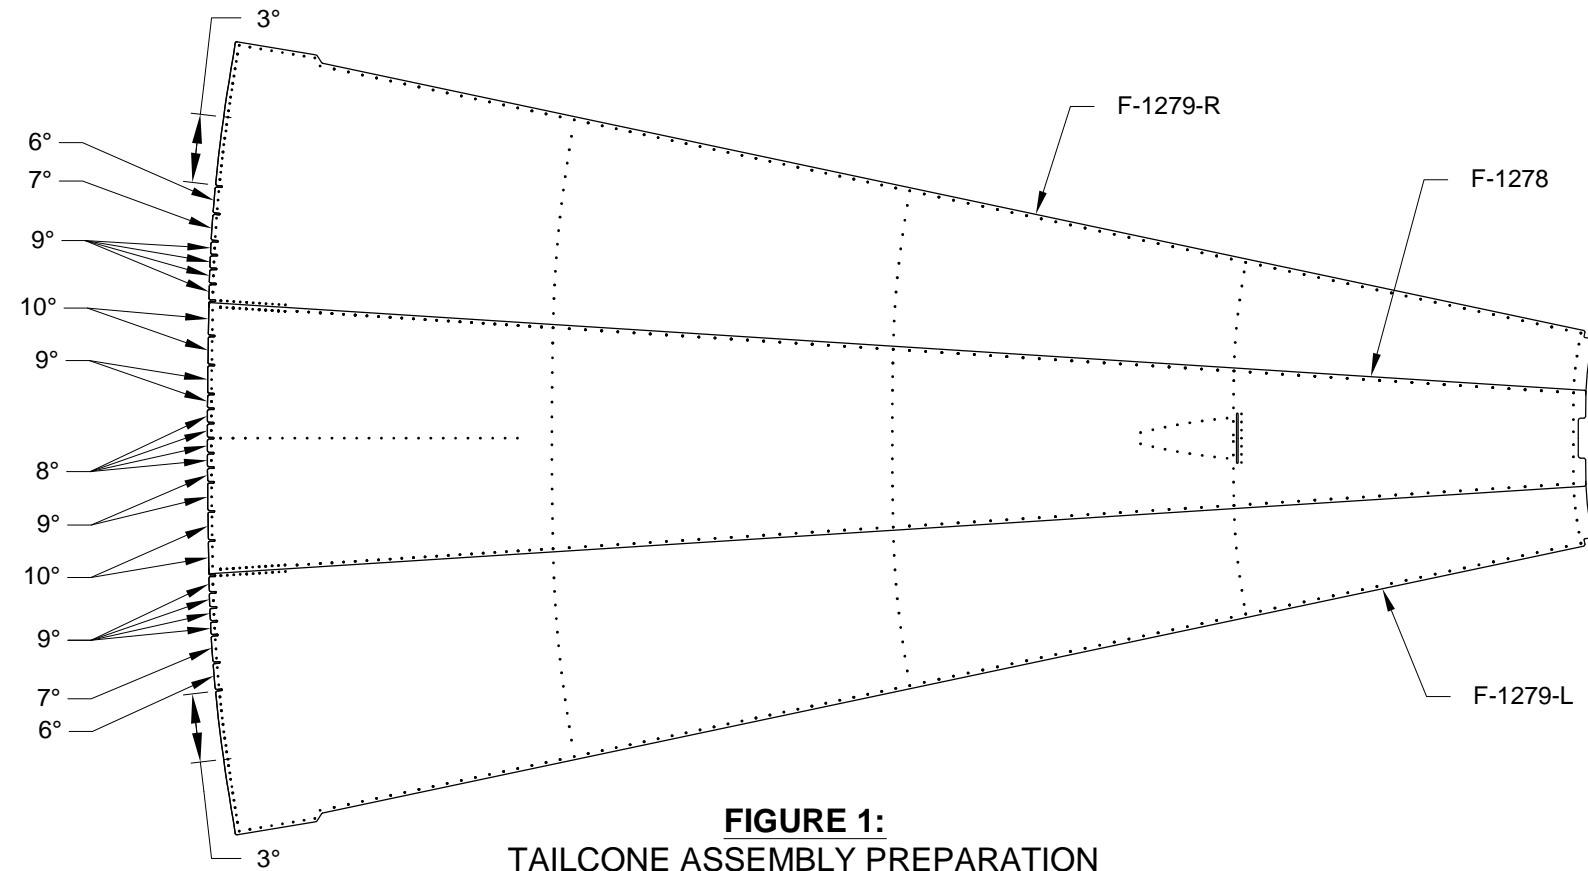

FIGURE 1:
Step 2: Bend the forward tabs on the F-1278 Top Skin, F-1279-L & -R Upper Skins per the angular dimensions given in Figure 1. All tabs are bent outboard.